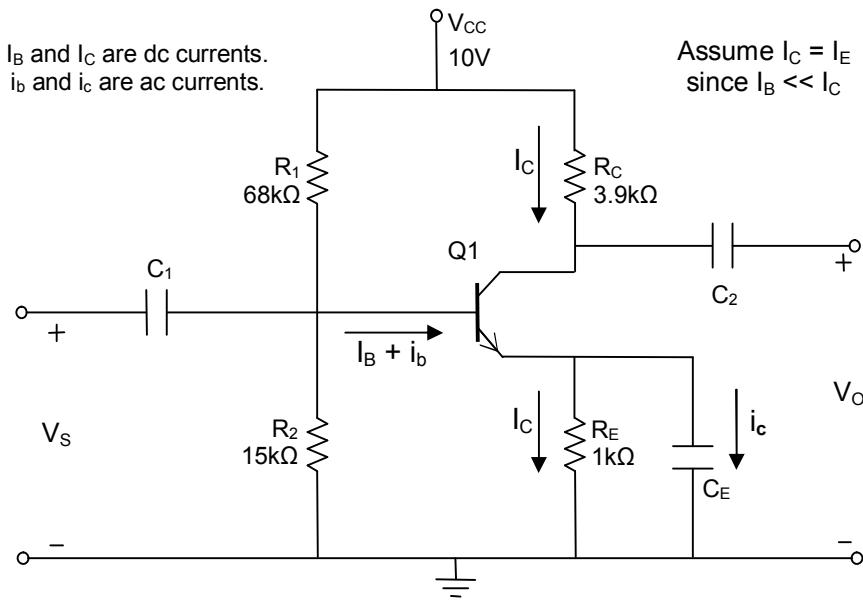

Figure 7.1: Common-emitter circuit with emitter bypass capacitor
- Perform B2 Spice simulations of the circuit shown in Figure 7.1, using the resistor values given and with extreme values of the resistors R_C ($1k\Omega$ & $20k\Omega$) and R_E ($200\ \Omega$ and $10k\Omega$), both with and without capacitor C_E . You should end up with ten different simulation graphs with the following resistor combinations:
Figure 7.1 shows a schematic diagram of a BJT common-emitter (CE) amplifier circuit. BJT transistor amplifiers are frequently used in the common-emitter configuration (CE), since this design gives both a high current gain (A_I), and a high voltage gain (A_V). Experiment #6 explored the dc and ac characteristics of the common-emitter circuit and how changing the Q-point affected circuit performance. You will study how the voltage gain of the circuit is affected by changing the values of the emitter and collector resistors. You will see how input signals can lead to distorted output signals as the gain and Q-point change.